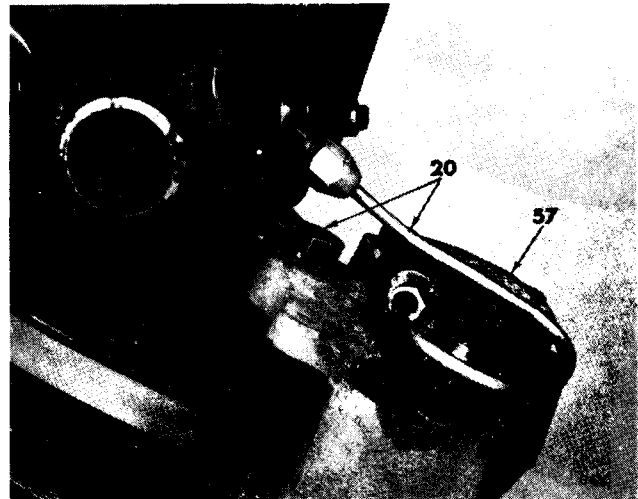

Fig. 4. Caliper attachment
1. Remove two bolts (20) (Fig. 4) and the brake caliper (57). Suspend the caliper from the top wishbone to avoid straining the flexible brake hose and place a wedge between the brake pads to retain the pistons.
2. Extract the grease cap (56) by screwing a No. 10 U.N.F. bolt into the centre of the cap.
3. Remove the split-pin (55), the nut (54) and the washer (53).
4. Pull off the hub and brake disc assembly; avoid damaging the felt seal (44).